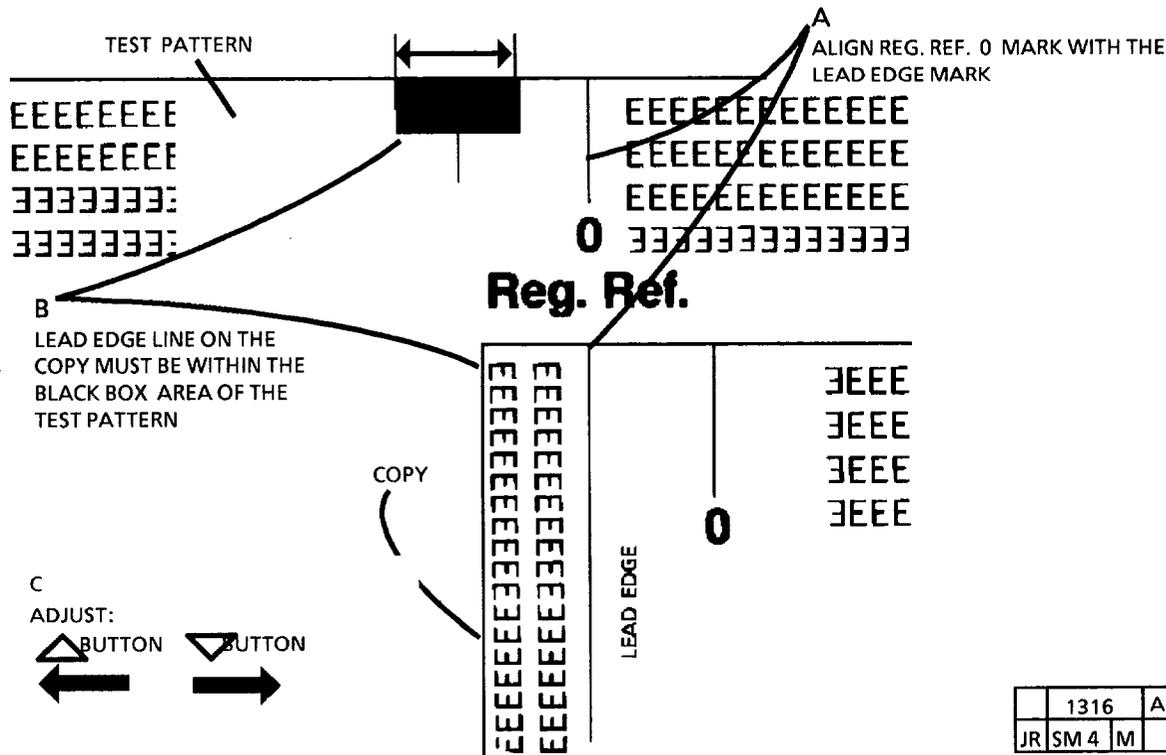

Figure 1. Check the Registration
10. REPEAT ALL THE STEPS UNTIL THE REGISTRATION MARKS ON THE COPY ALIGN WITHIN ONE HALF OF THE UNIT LINES OF THE TEST PATTERN (FIGURE 1).
11. IF THE CUSTOMER INDICATES THAT VELLUM (USO) TRACING PAPER (RX) OR FILM WILL BE USED, PERFORM THE FOLLOWING STEPS:
A. VELLUM (USO) TRACING PAPER (EO) - USE THE ARROW BUTTONS TO ENTER THE CODE [22] AND PERFORM THIS PROCEDURE USING VELLUM (USO) TRACING PAPER (RX) FOR THE COPY.
3. (FIGURE 1): CHECK THE REGISTRATION OF THE TWO COPIES.
3. (FIGURE 1): USE THE (▲) BUTTON IN ORDER TO MOVE REGISTRATION TO THE LEFT OR THE (▼) BUTTON IN ORDER TO MOVE IT TO THE RIGHT.